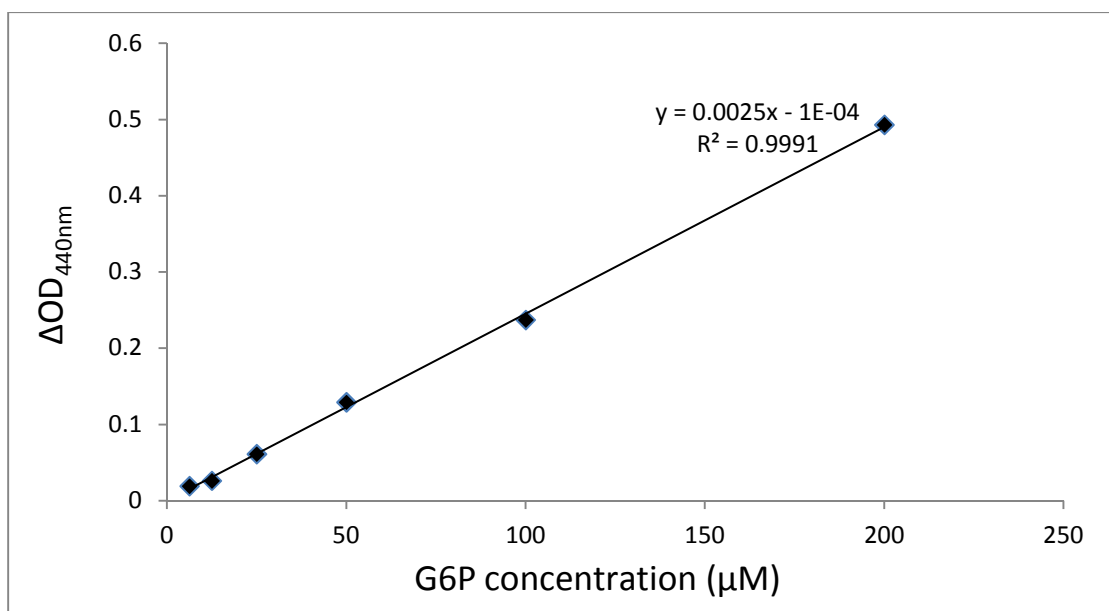

Figure1. A typical G6P standard curve measured by ScienCell™ Glucose-6-phosphate Assay kit
Data from glucose-6-phosphate assay of G6P solutions with concentrations ranging from 1.0 to 500 µM show a linear relationship between OD_{440nm} and G6P concentration (Figure 1).
2. Based on the calibrated $\Delta\text{OD}_{440\text{nm}}$ of the G6P standard, make a standard curve by plotting $\Delta\text{OD}_{440\text{nm}}$ as a function of G6P concentration (See Figure 1 for a typical standard curve). Determine the equation and R^2 value of the trend line.